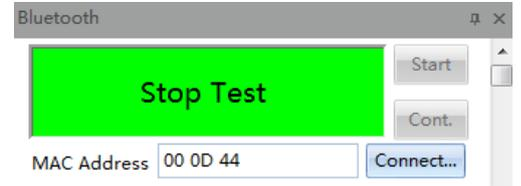

Figure 4.34 Keep 3-bit for Manual Input
- Manual Input: input MAC address manually on the keyboard. After input, click the “Connect” button or press enter key to connect a bluetooth device. When choosing to save the first N-bit address, after input, the last 6-N-bit value will be deleted. Figure 4.34 shows the input end state of “keeping the first 3-bit address”.